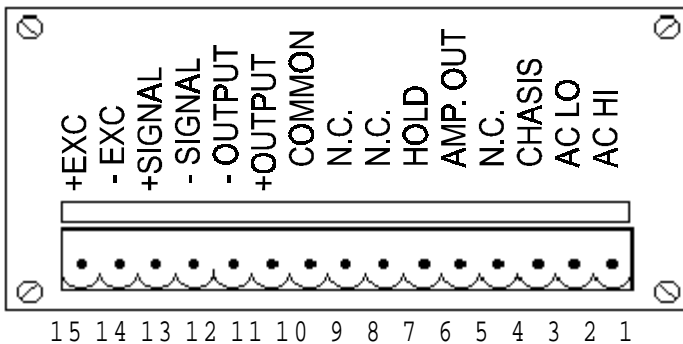

Figure 9 - Track-and-Hold Pin Locations
The Model DM Track-and-Hold option permits the DM to stop tracking an input signal upon command. This command is initiated by the front panel HOLD button; the first push activates the feature and the next one deactivates it. When the Track-and-Hold feature is in the "hold" mode, the front HOLD light is illuminated. The "hold" feature can also be activated through the rear panel by interconnecting the COMMON (9) and HOLD (6) terminals. The OUTPUT (10 and 11) terminals track the input signal until the "hold" mode is activated and then lock onto the last value prior to this condition. The AMP OUT (5) terminal monitors the amplified input signal regardless of the hold function condition. Figure 9 shows the rear panel pin connections for the Track-and-Hold option.